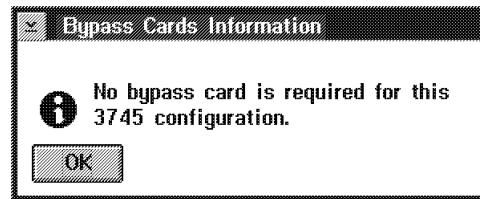

Figure 4-41. Information Message
**Note:** If the configuration does not require a bypass card you will get an information message (see Figure 4-41). In that case, click on "OK" to return to the 3745 menu.